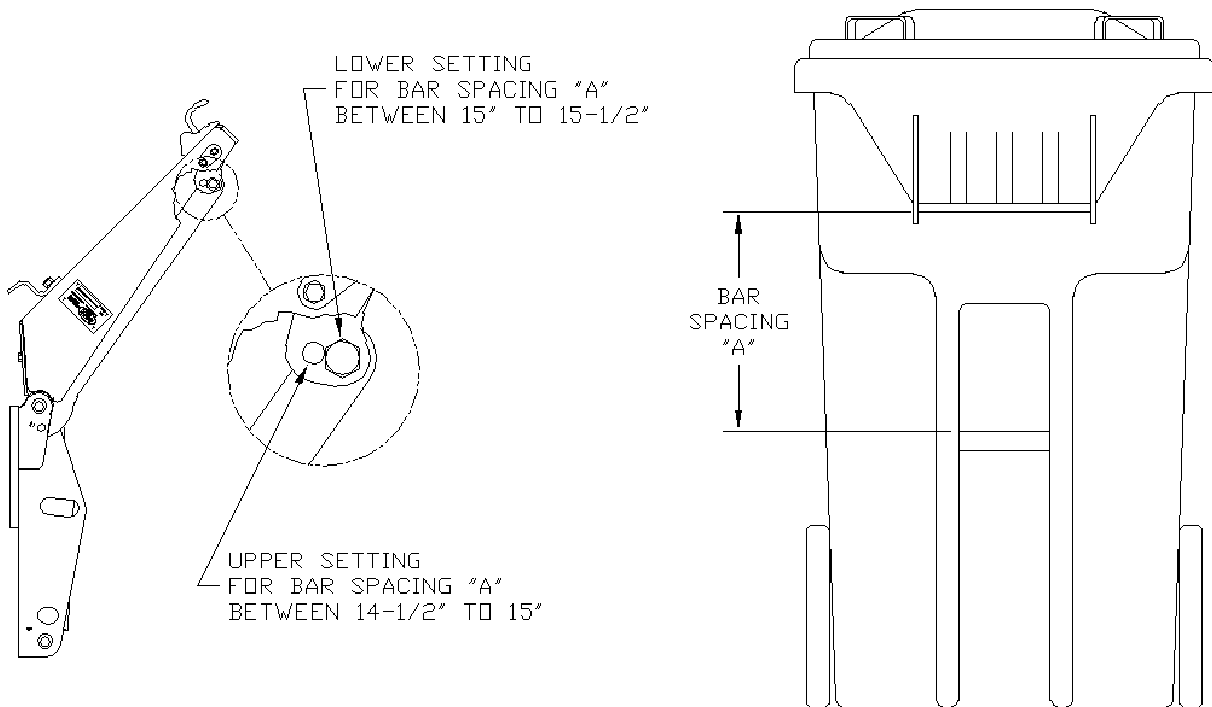

figure O-3
The lower hook is equipped with two settings that must be properly adjusted to accommodate the carts being lifted. Check the distance (A) (figure O-3) between the upper bar and the lower bar on the cart. If this dimension is between **15" to 15-1/2"**, leave the lower hook attachment in the lower setting. If this dimension is between **14-1/2" to 15"**, move the lower hook attachment to the upper setting.